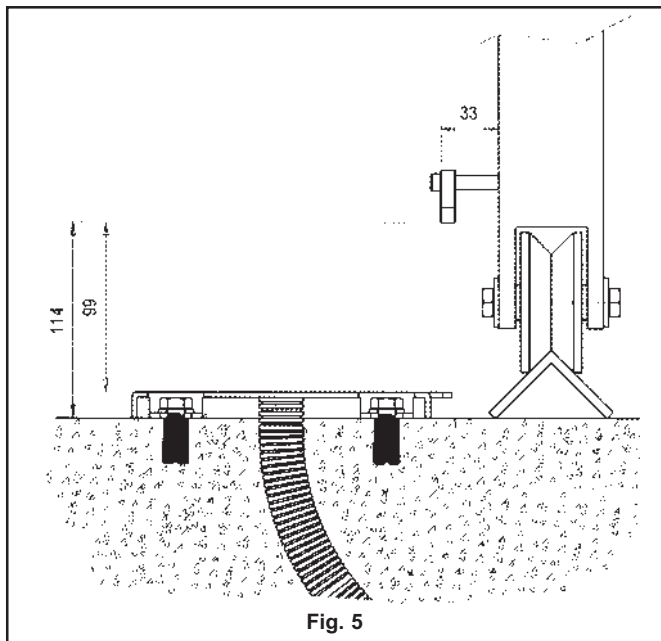

Fig. 5
b) Refer to fig. 5 for matters concerning distances.
ATTENTION: if the rack is already present, pay special attention to comply with the measurements (fig. 5) in order to be able to insert the pinion underneath the rack correctly.